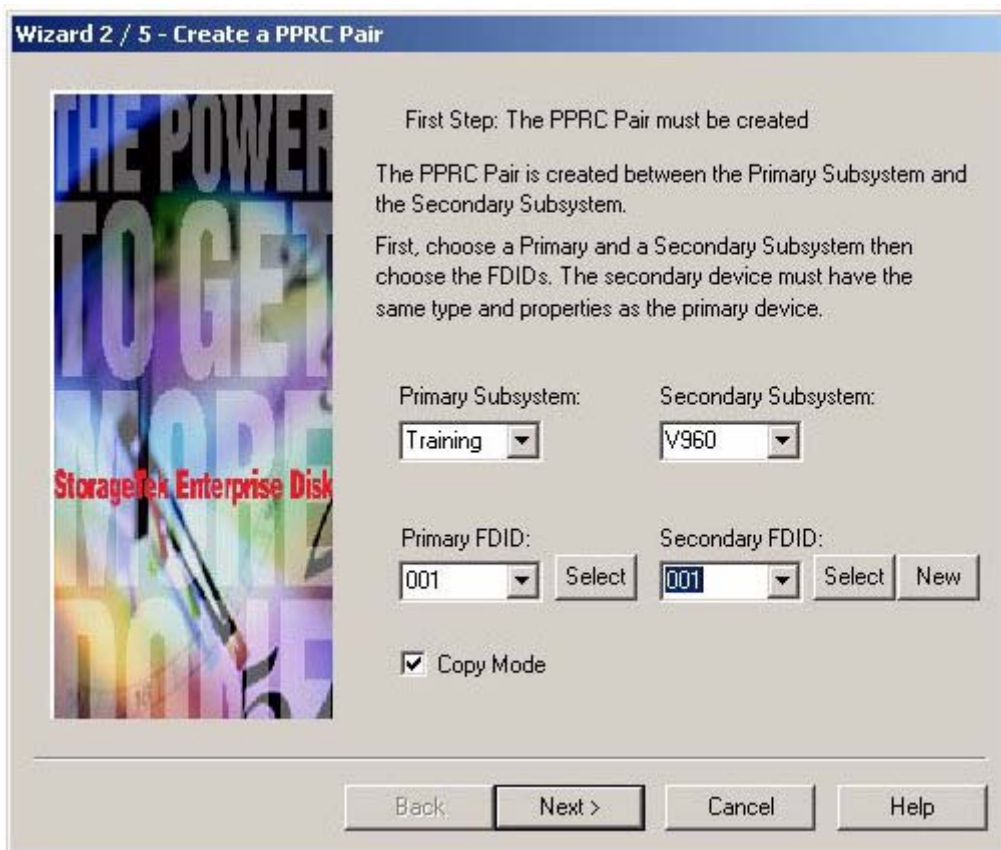

Figure 15 Primary and Secondary Subsystem Selection
- The dialogued box of Figure 15 appears. Select the primary and secondary subsystems and their FDIDs.